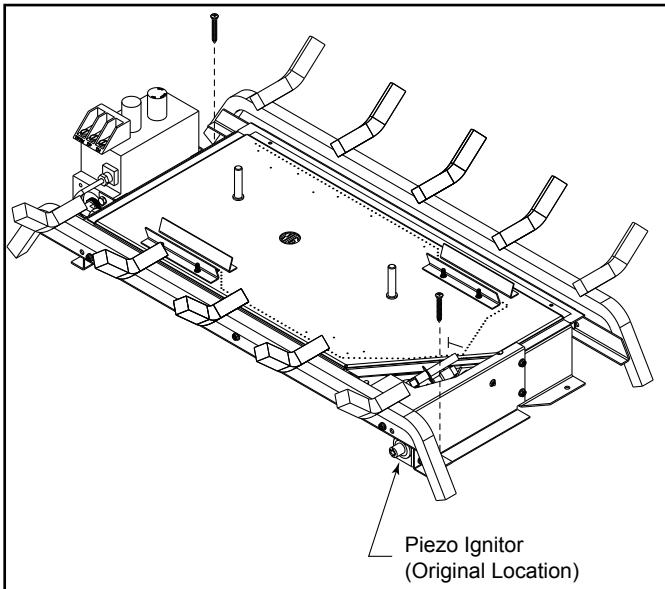

Figure 3.9 - Secure Burner
A damper stop must be provided with the unit. Contact your dealer to obtain one. The damper stop must be installed as shown in *Figure 3.9* to prevent full closure of the fireplace damper blade and provide a minimum 29 square inch flue opening.
2. Anchor holes are located on the right and left sides of the unit. After centering the grate correctly, mark the hole locations on the fireplace/firebox floor. Drill two (2) 5/32" diameter holes approximately 1 1/4" deep.
3. Anchor the unit to the fireplace/firebox floor using the screws provided. *Figure 3.9*